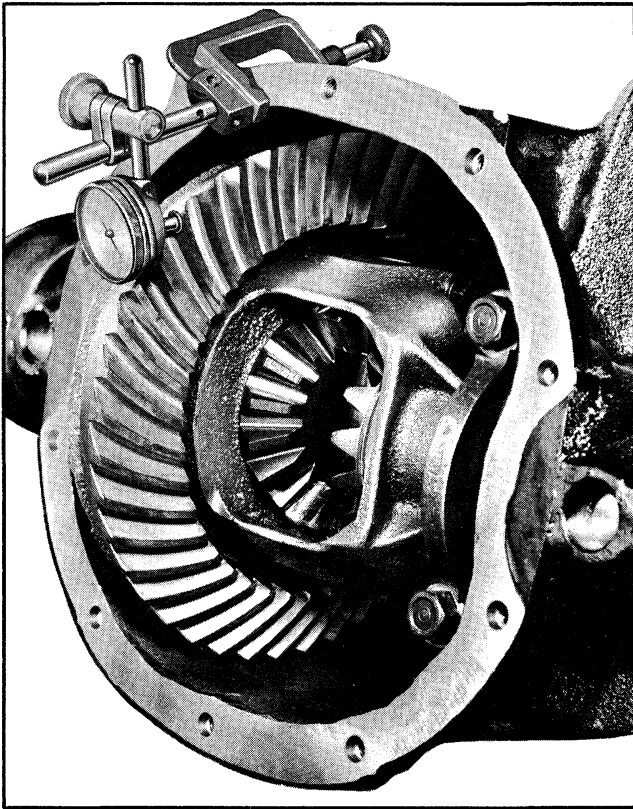

Fig. 4-44 Checking Ring Gear to Pinion Gear Backlash
1. Rotate differential case several times to seat bearings, then mount dial indicator as shown in Fig. 4-44. Use a small button on indicator stem so that contact can be made near heel end of tooth. Set dial indicator so that stem is as nearly as possible in line with gear rotation and perpendicular to tooth angle for accurate backlash reading.